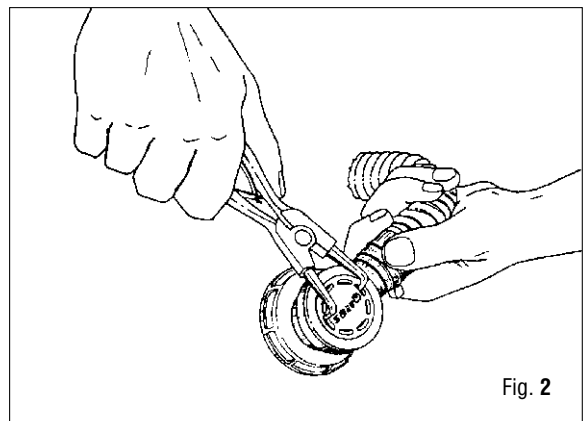

Fig. 2
1. Unscrew the cover (69) using a caliper tool or snap ring pliers. (Fig. 2)
2. Remove the diaphragm-holder (7) with the diaphragm (6) from the cover (69).
3. Remove the seal (67).